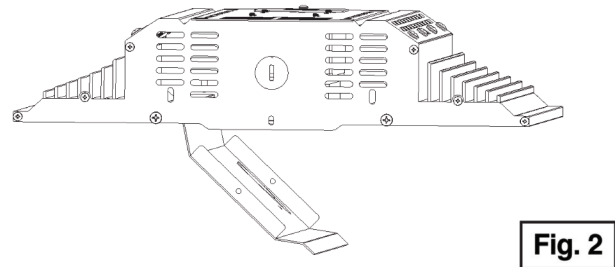

Fig. 2
The center plate will hinge from one side, as shown in **Fig. 2**, allowing access to the driver. Once repairs are done, slide the plate back into place and replace the two (2) screws.